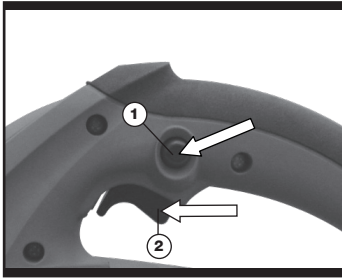

Fig. 1
1. SAFETY ON/OFF SWITCH (See Fig.1)